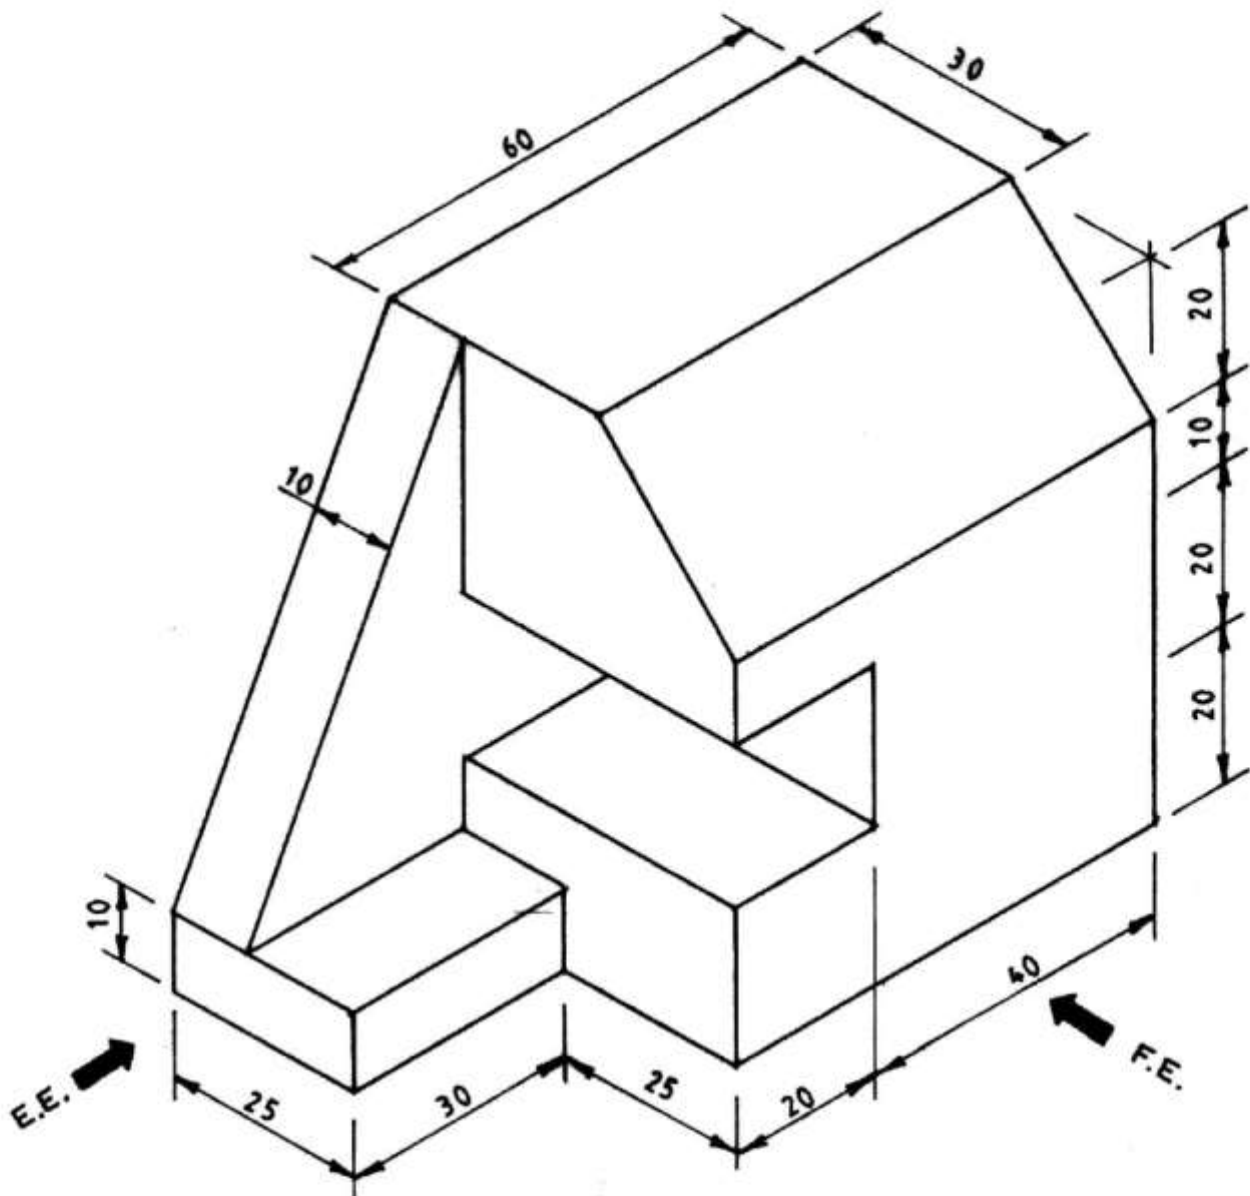

Fig. 1
- 11 **Figure 1** shows an isometric drawing of a block.